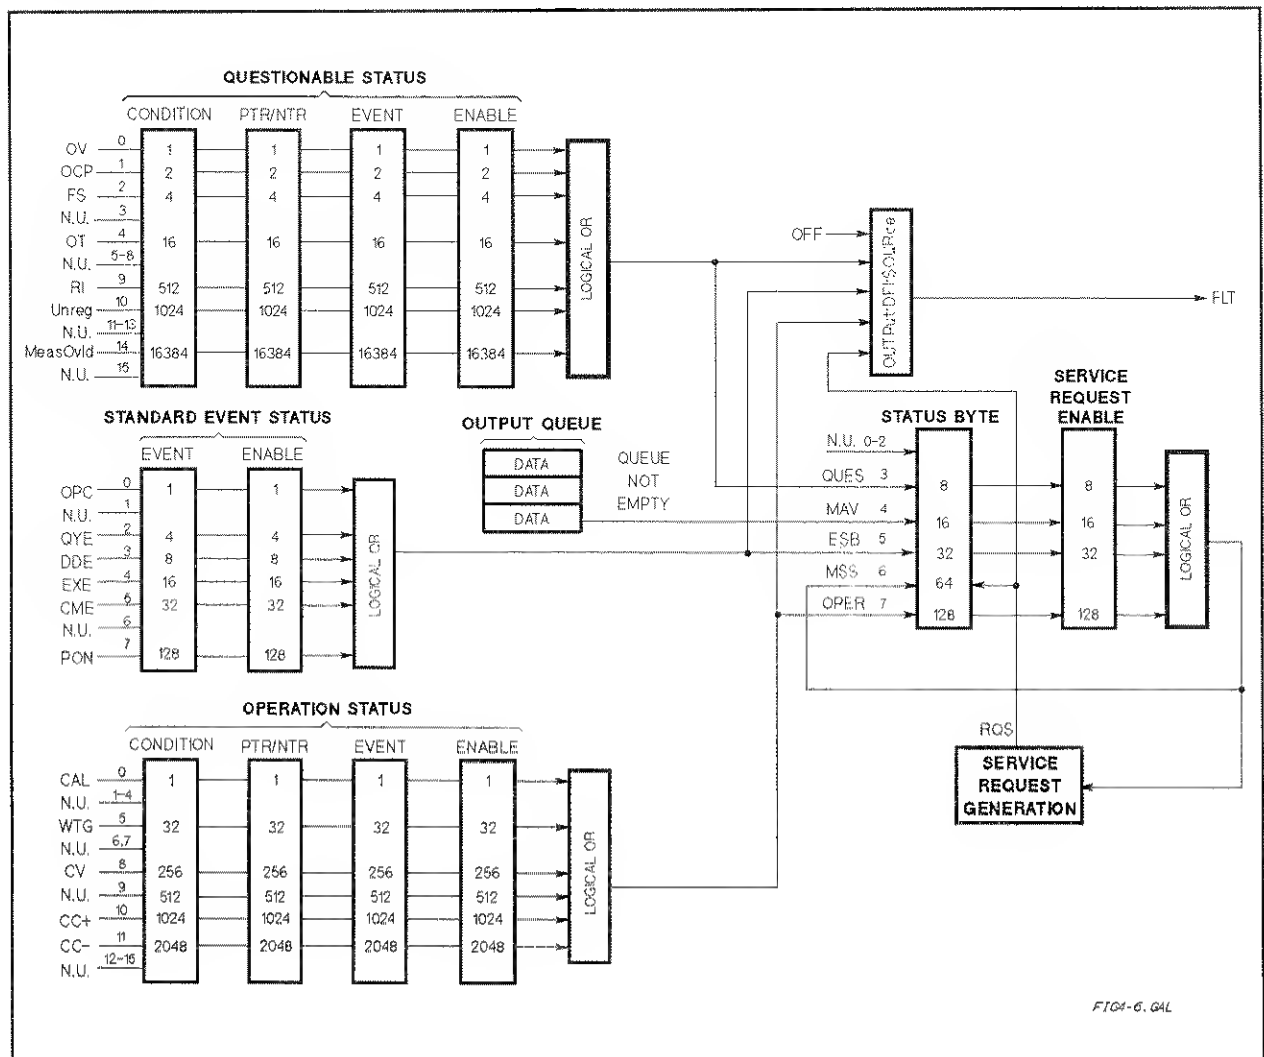

Figure 3-7. DC Source Status Model
Figure 3-7 shows the status register structure of the dc source. Table 3-1 defines the status bits. The Standard Event, Status Byte, and Service Request Enable registers and the Output Queue perform standard HP-IB functions as defined in the *IEEE 488.2 Standard Digital Interface for Programmable Instrumentation*. The Operation Status and Questionable Status registers implement functions that are specific to the dc source.
The Questionable Status registers record signals that indicate abnormal operation of the dc source. As shown in figure 3-7, the group consists of the same type of registers as the Status Operation group. The outputs of the Questionable Status group are logically-ORed into the QUESTionable summary bit (3) of the Status Byte register.
This group consists of an Event register and an Enable register that are programmed by Common commands. The Standard Event event register latches events relating to instrument communication status (see figure 3-7). It is a read-only register that is cleared when read. The Standard Event enable register functions similarly to the enable registers of the Operation and Questionable status groups.
This example assumes you want a service request generated whenever the dc source switches to the CC (constant current) operating mode, or whenever the dc source's overvoltage, overcurrent, or overtemperature circuits have tripped. From figure 3-7, note the required path for a condition at bit 10 (CC) of the Operation Status register to set bit 6 (RQS) of the Status Byte register. Also note the required path for Questionable Status conditions at bits 0, 1, and 4 to generate a service request (RQS) at the Status Byte register. The required register programming is as follows: